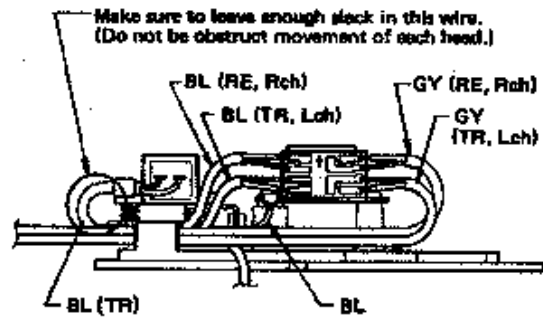

Fig. 9
* Refer to fig. 9 when connecting them.